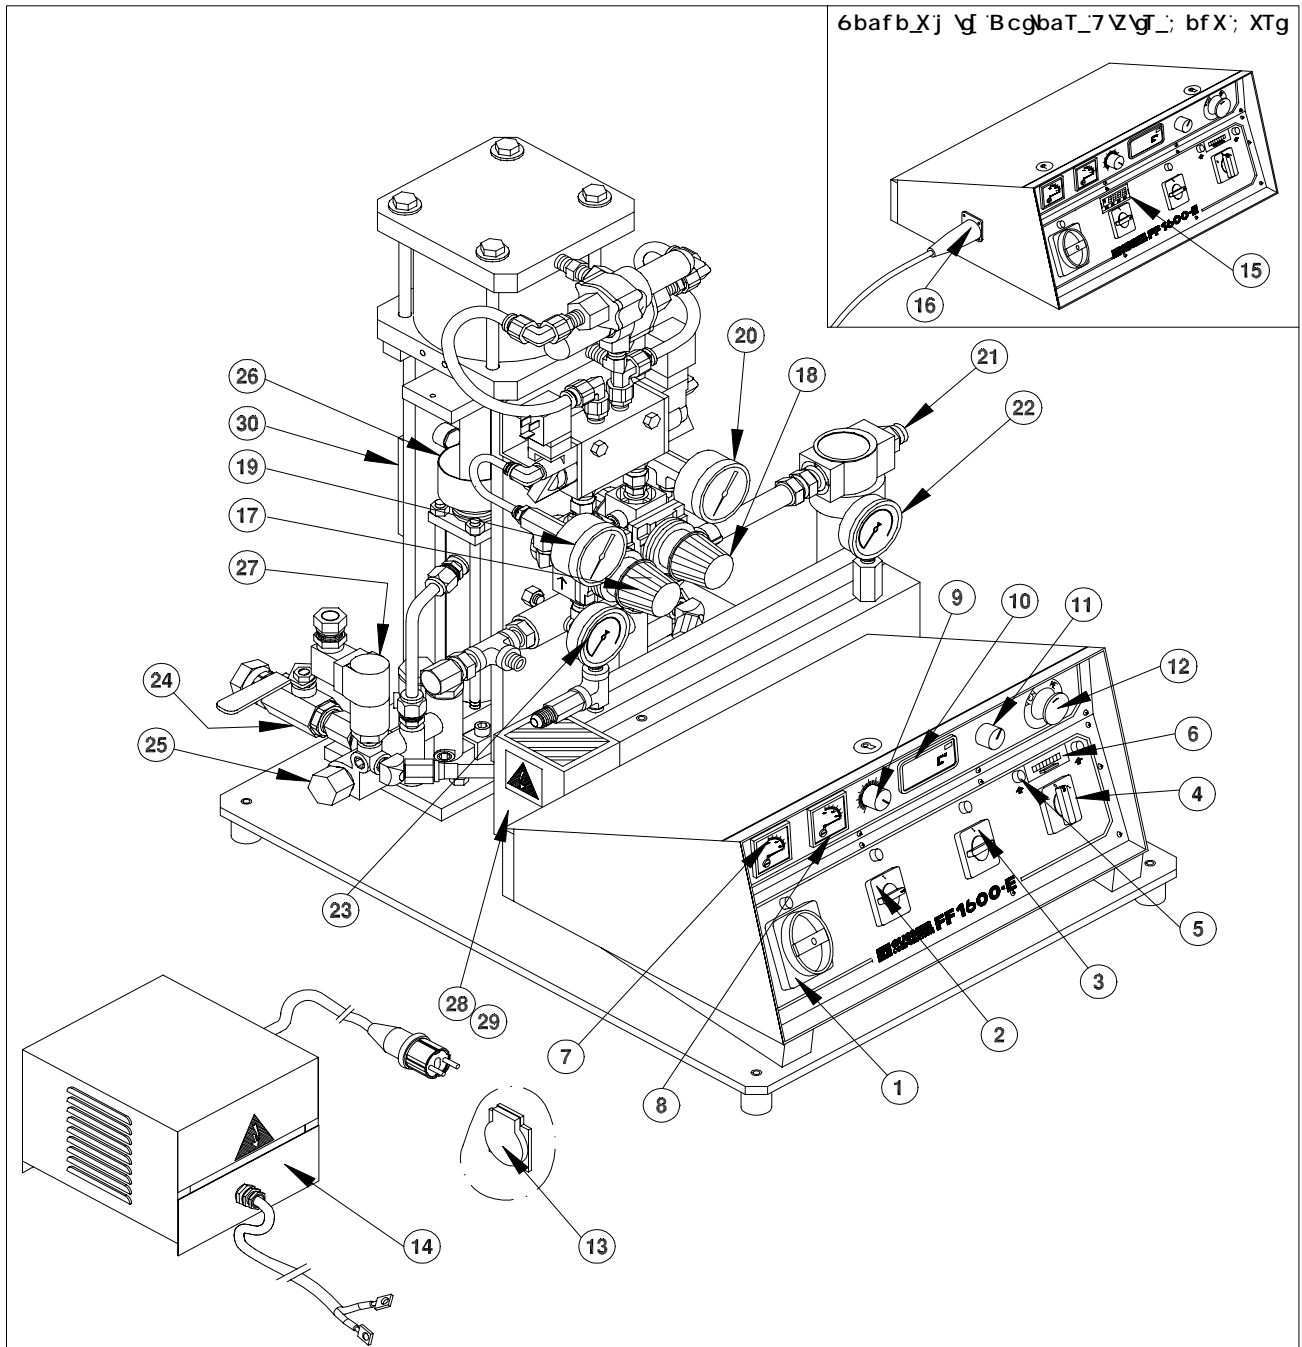

Figure 1. Model FF-1600-E Proportioning Unit
6. COUNTER - Records the cycle count of the proportioning pumps; one cycle count equals two (2) strokes (one in each direction).
15. HOSE HEATER CONTROLLER - (See Inset Figure 1) Controls the temperature of the liquid maintained by the hose heater; set control selector to the desired temperature. From this point, the temperature control is completely automatic.